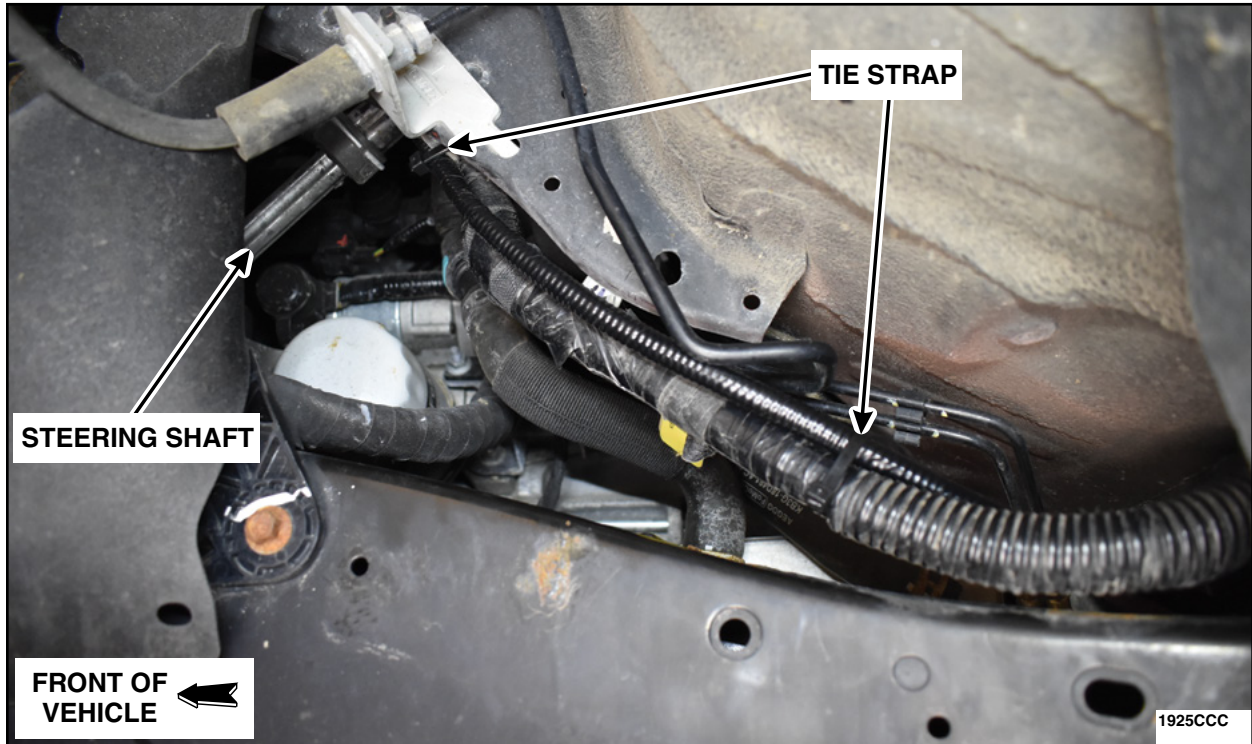

FIGURE 53
54. Install tie straps to secure the *new* wire harness away from the steering shaft. See Figure 53.